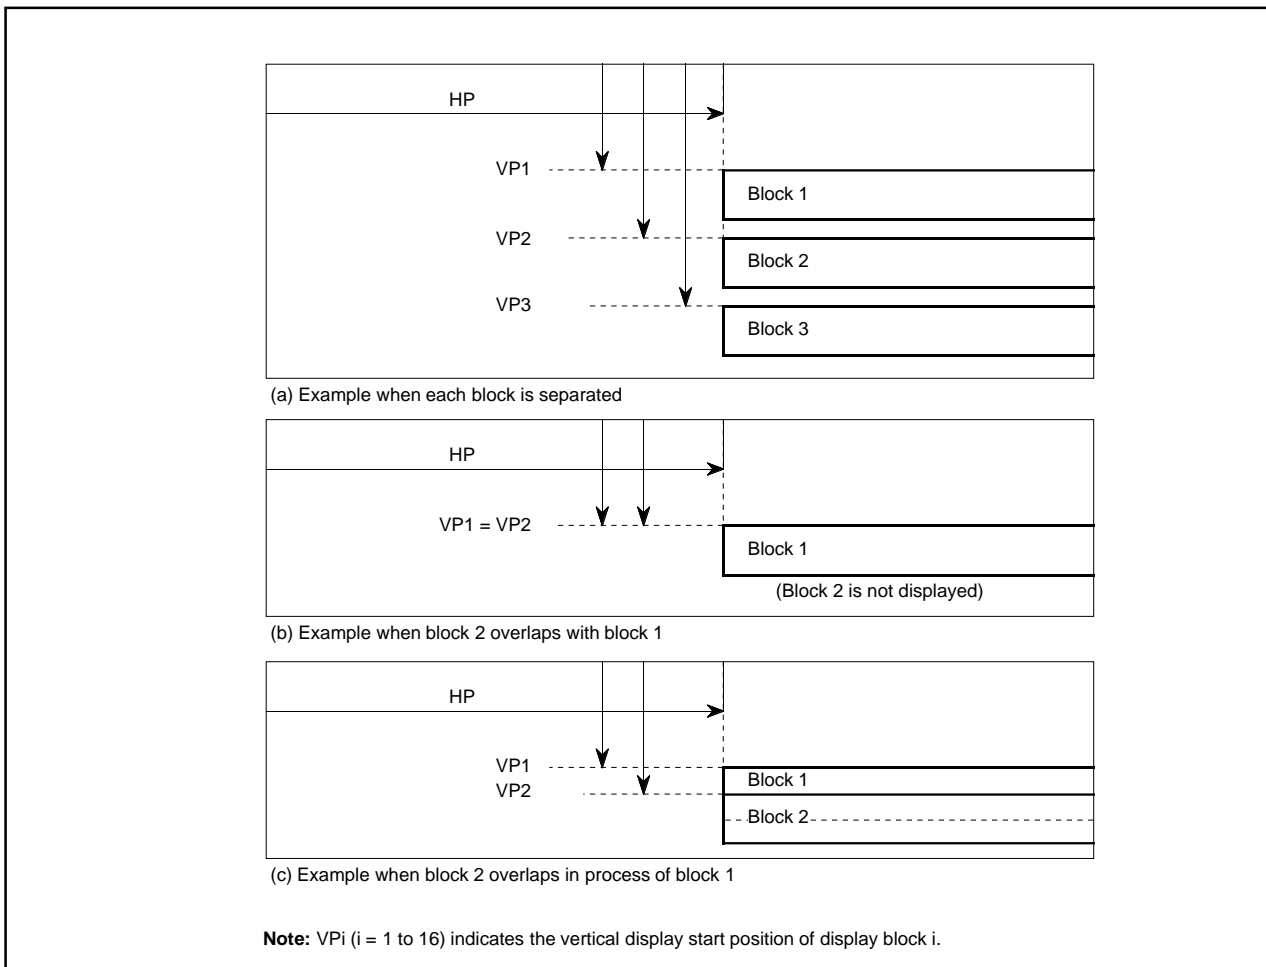

Figure 2.16.8 Display position
- When the display position is overlapped with another block in the same layer (Figure 2.16.8 (b)), a low block number (1 to 16) is displayed on the front.
- When another block display position appears while one block is displayed in the same layer (Figure 2.16.8 (c)), the block with a larger set value as the vertical display start position is displayed. However, do not display block with the dot size of $2T_c \times 2H$ or $3T_c \times 3H$ during display period (*) of another block.